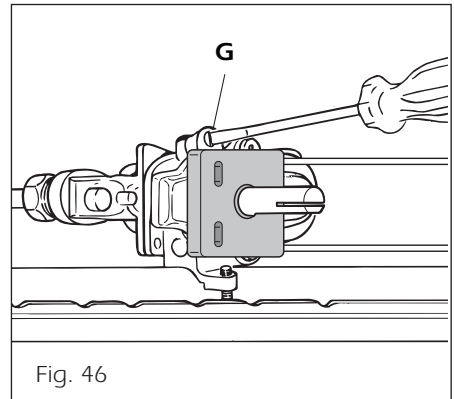

Fig. 46
- remove the knob and by a thin screwdriver (3 mm section - 100 mm long) unscrew of about a half turn the screw by-pass, passing through the front panel hole (fig. 46)